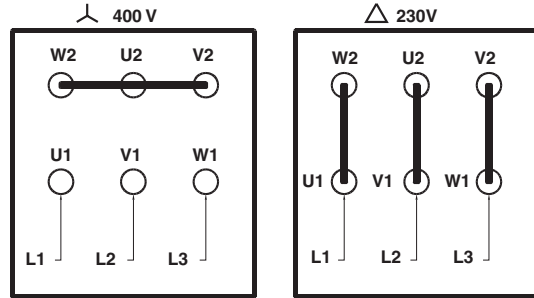

Fig. 24
**TCN - Oil enabling thermostat (Fig. 24)**
**TRS - Resistor safety thermostat (Fig. 24)**
**TR - Resistor thermostat (Fig. 24)**
**TCI - Installation enabling thermostat (Fig. 24)**